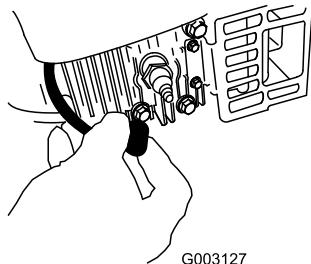

Figure 31
- Disconnect the spark-plug wire from the spark plug (Figure 31) before performing any maintenance procedure.